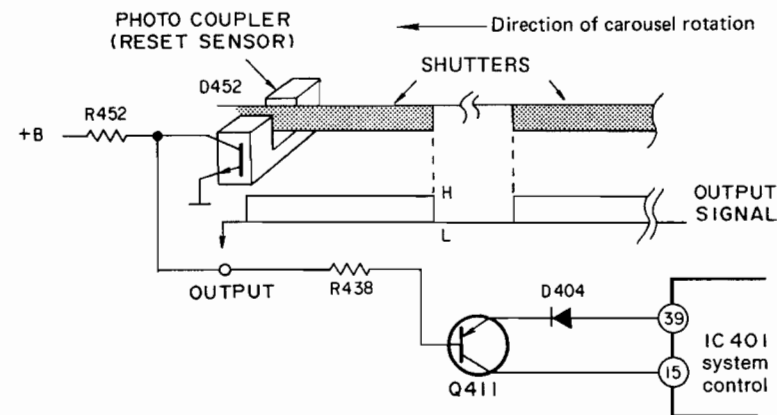

Figure 11 Rest Position Detection Circuit
B) Detection circuit (Refer to figure 11)
As the carousel rotates, the pulses shown in figure 11 are generated at the photocoupler.